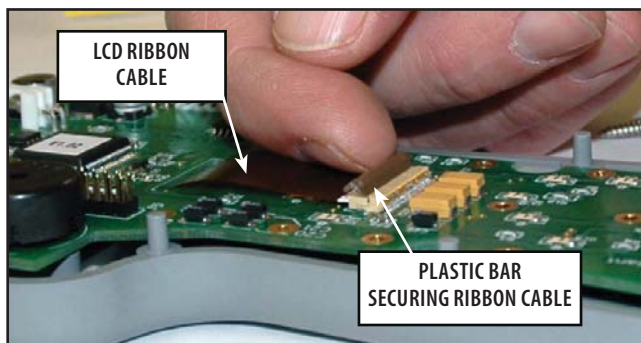

FIGURE 6.23
2. Using a finger nail, lift the brown plastic bar securing the Display Ribbon Cable to the Control Board. Slide the Ribbon Cable back to free from the Control Board. **Refer to Figure 6.23.**